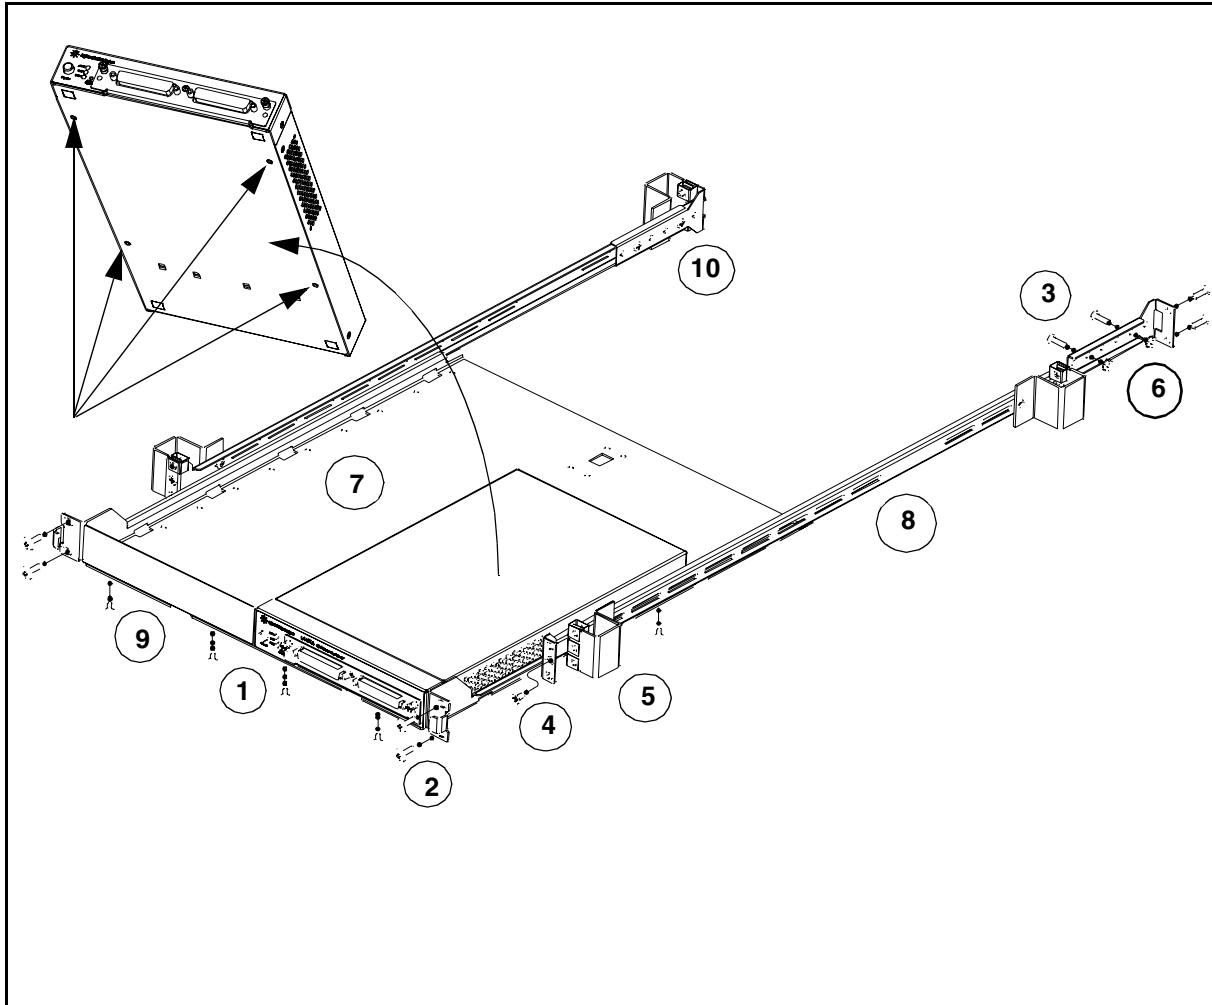
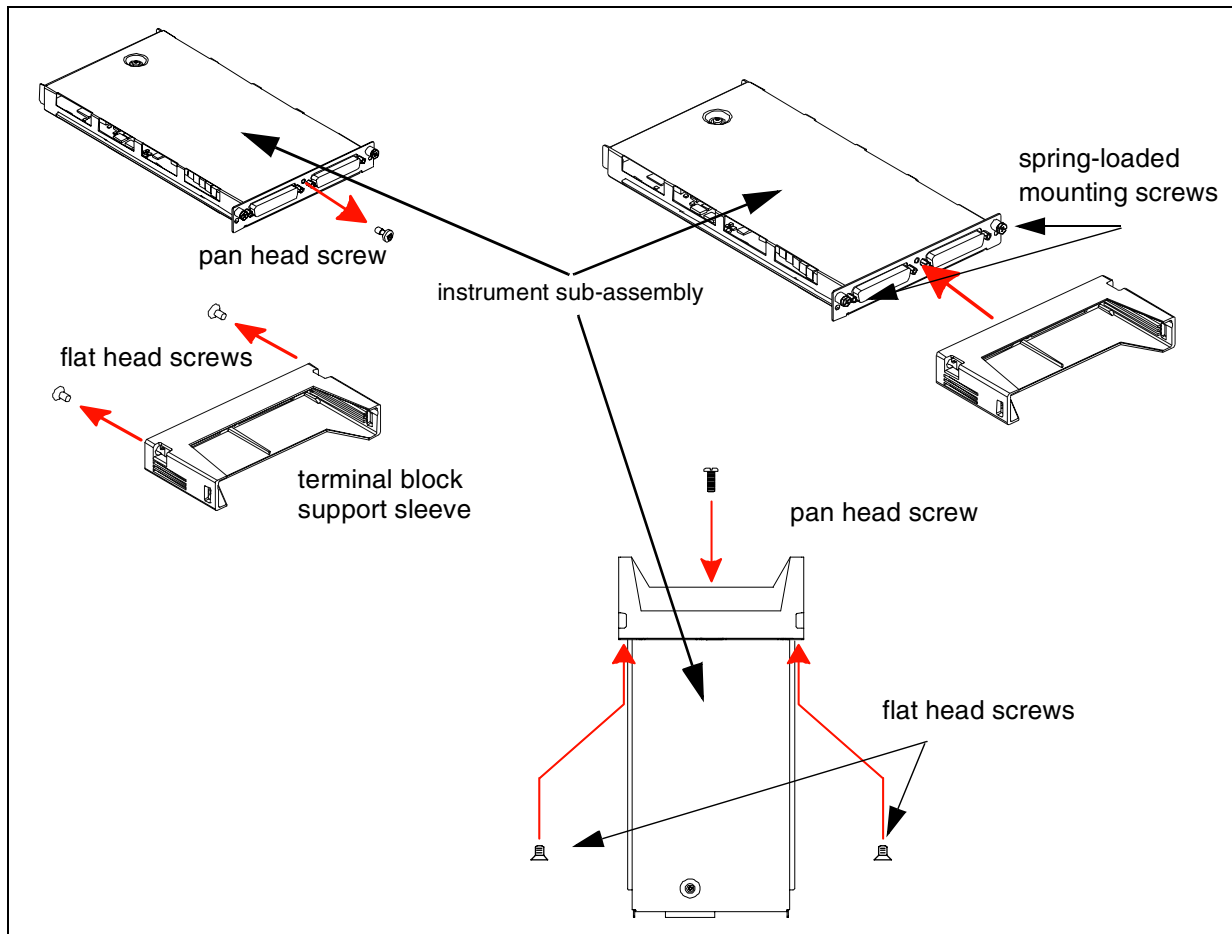

Figure 1-1. Y1160A Instrument Rack Mount Kit (L4400 Series).
Figure 1-5. Connecting the Terminal Block Support Sleeve.
Figure 1-1 is a composite drawing of the Y1160A sliding shelf rack mount kit. The drawing shows the location/usage of the hardware items listed in Table 1-2.
3. Note the location of the four mounting holes on the bottom of the instrument (Figure 1-1). Set the carrier on the shelf, and align the mounting holes with the holes on the shelf. Insert four M4x8 flat head screws (item 1) upward through the bottom of the shelf and into the carrier mounting holes.
4. Install the second L4400 instrument (if present) in the shelf area adjacent to the first instrument. If only one instrument is installed, install a filler panel on the front edge of the unused area. Insert two M4x8 flat head screws (item 1) upward through the bottom of the shelf and into the panel.
6. For instruments that have accompanying terminal blocks, partially remove the instrument sub-assembly from the instrument (carrier) by loosening the spring-loaded mounting screws (Figure 1-5). Remove the support sleeve from the terminal block. Locate and remove the flat head screws from the sleeve and remove the pan head screw from between the instrument's D-sub connectors (Figure 1-5). Connect the sleeve to the instrument using the flat head and pan head screws as shown. Reconnect the sub-assembly.